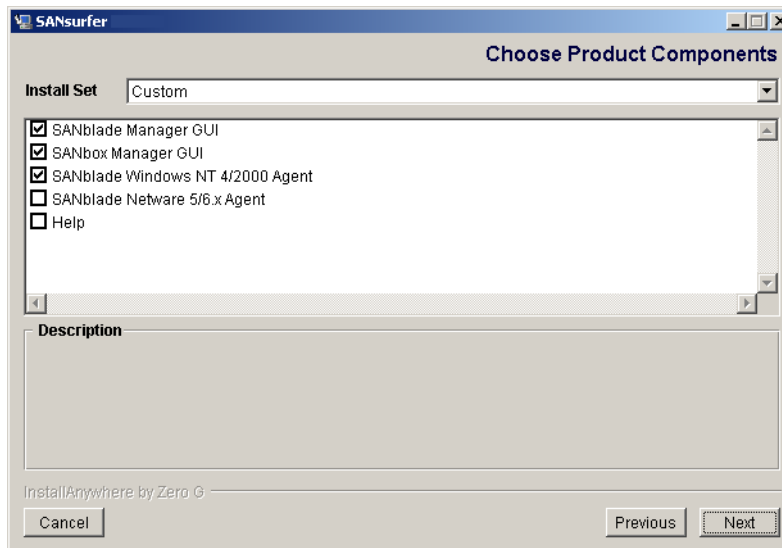

Figure 5-4. Choose Product Components Dialog Box (Sample)
- ❑ Select **Customize** to create an installation set. The **Choose Product Components** dialog box displays (see figure 5-4). The dialog box differs, depending on whether you are installing on a Windows 2000/Server 2003, Red Hat/SuSE Linux, or Solaris SPARC system.